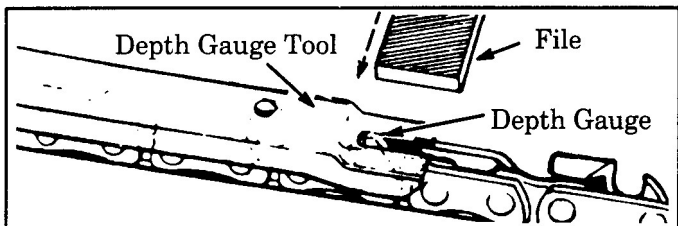

Figure 32
- a.) Place depth gauge tool over each cutter depth gauge. Figure 32.
- c.) Maintain rounded front corner of depth gauge with a flat file. Figures 32 & 33.